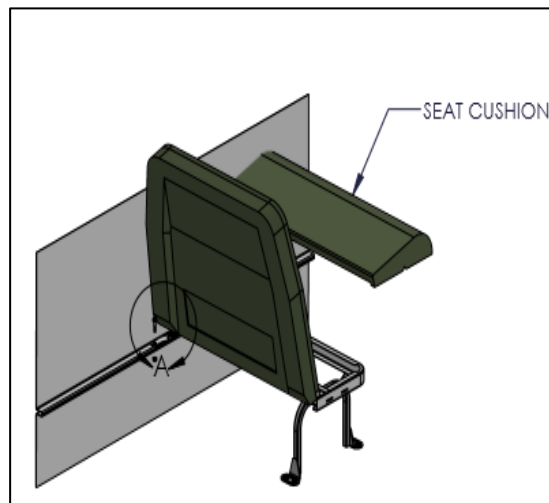

Figure 1: Remove Seat Cushion
3. Remove the seat cushion. See **Figure 1**.